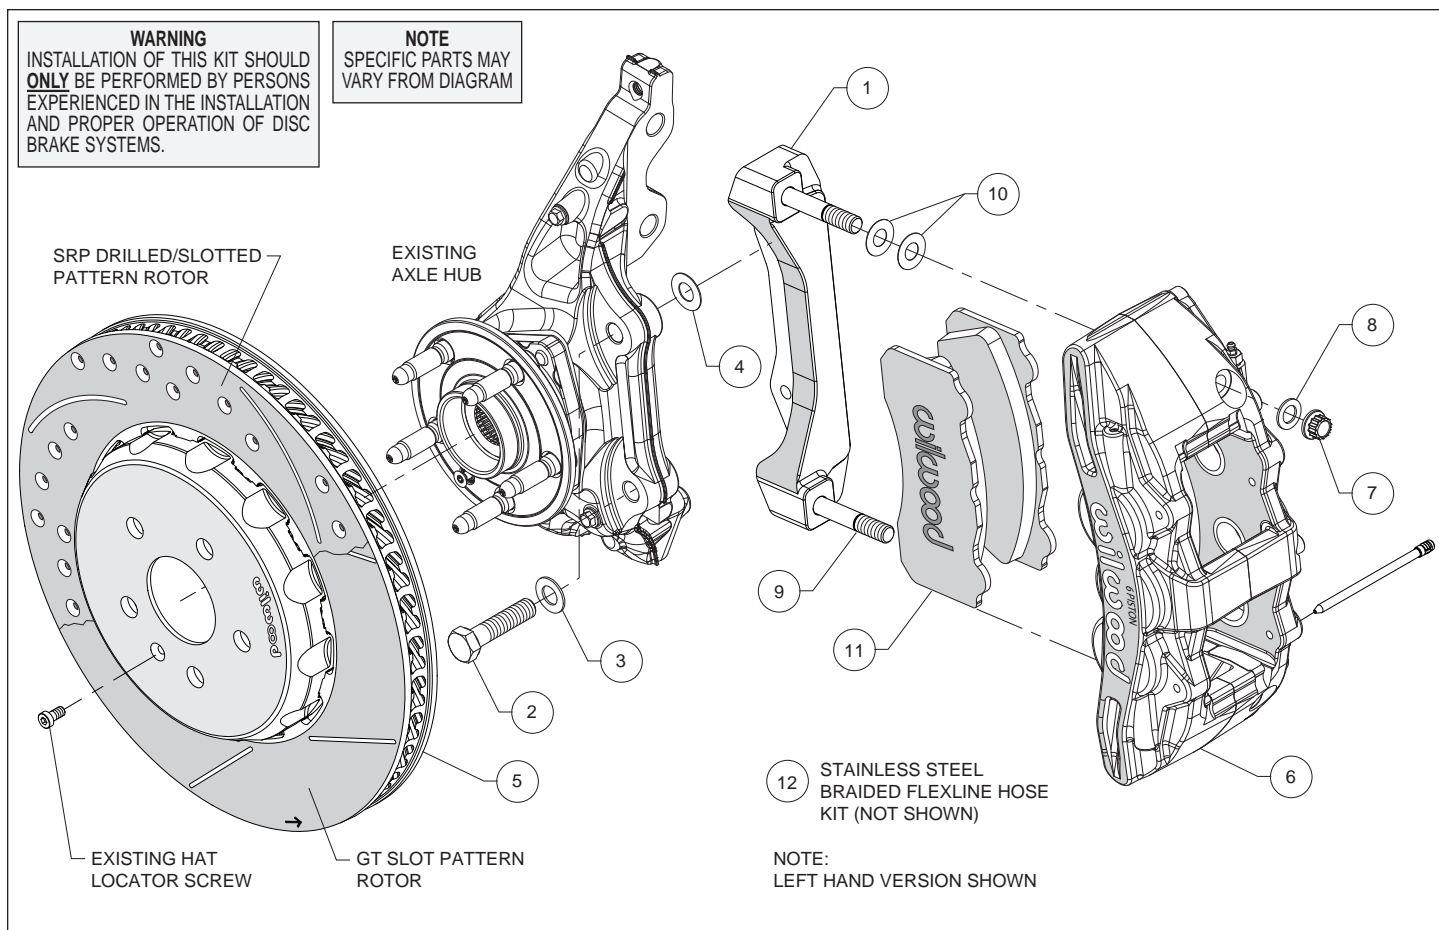

Figure 1. Typical Installation Configuration
Assembly Instructions (numbers in parenthesis refer to the parts list and Figure 1 on the preceding pages):
- The caliper mount bracket (1) should initially be installed with clean, dry threads on the mounting bolts. Orient the bracket, as shown in Figure 1 and Photo 1, and install using bolts (2) and washers (3). Initially place one .029" thick shim (4) on each bolt between the bracket and upright, Figure 1. Temporarily tighten the mounting bolts. **NOTE:** *The bracket must fit squarely against the mount bosses on the upright.* Inspect for interference from casting irregularities, machining ridges, burrs, etc. Later, after the caliper alignment has been checked, the mount bolts will be secured using red *Loctite*® 271.
- NOTE:** *This kit contains distinct right and left hand calipers that must be mounted in a specific direction, as described below.* Lubricate the caliper mounting studs (9) with lightweight oil. Initially place two .015" thick shims (10) on each stud between the caliper and the bracket, as shown in Figure 1 and Photo 3. Mount the caliper (6) onto the bracket (1) using lock nuts (7) and washers (8), Figure 1. Temporarily tighten the lock nuts. Ensure that the caliper is mounted so the largest pistons are at the rotor exit end of the caliper, in relation to the direction of the rotor. View the rotor through the top opening of the caliper. The rotor should be centered in the caliper, Photo 4. If not, adjust by adding or subtracting shims (4) between the bracket and the upright. Always use the same amount of shims on each of the two mounting bolts. Once the caliper alignment is correct, remove the bracket mounting bolts (2) one at a time, apply red *Loctite*® 271 to the threads, and torque to 77 ft-lbs.
- Remove the two pad retaining pins from the caliper (6) by pushing out the pins from the tapered end using a blunt instrument. Insert the brake pads (11) into the caliper from the bottom, Figure 1 and Photo 5. With the friction material facing the rotor, secure the brake pads in place with the pad retaining pins, Photo 6. Reinstall the caliper onto the caliper mounting bracket and temporarily tighten the lock nuts (7). Check that the top of the brake pad is flush with the outside diameter of the rotor, Photo 7. If not, adjust by adding or subtracting shims (10) between the caliper and the bracket. After the caliper pad height is set, torque the caliper lock nuts (7) to 65 ft-lb.